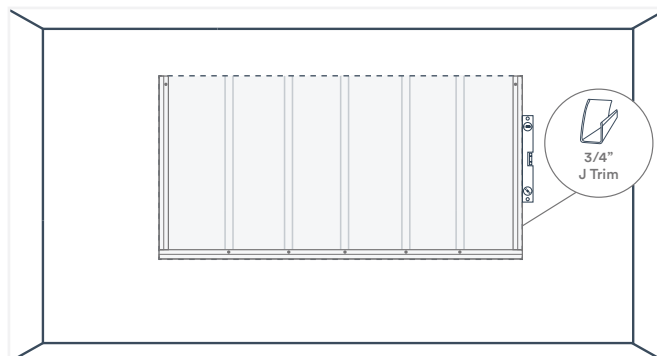

Fig. 29
8. Use a level to ensure that the vertical J Trim is plumb and fasten the top corner of the J Trim to the stud to hold it in place. Repeat this process for the other vertical J Trim (Fig. 29).